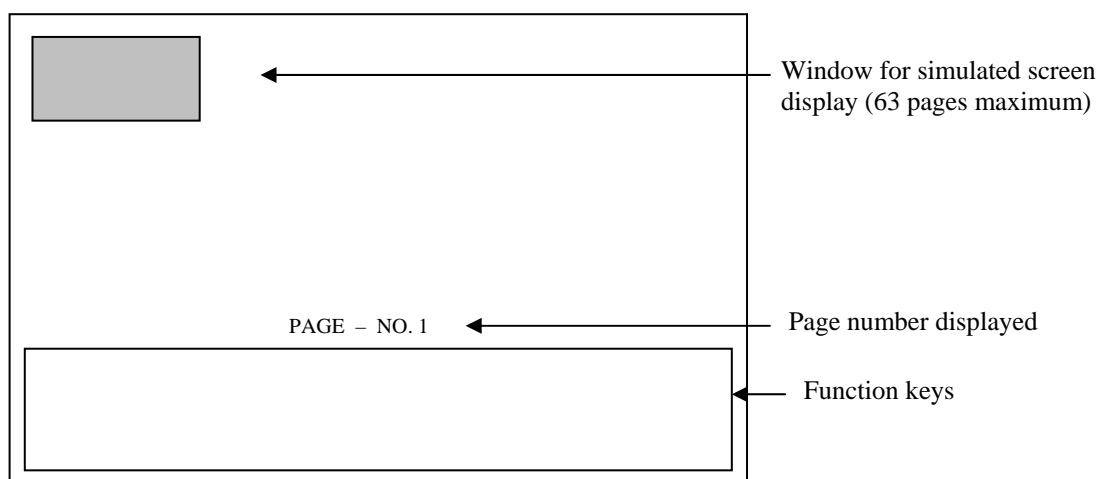
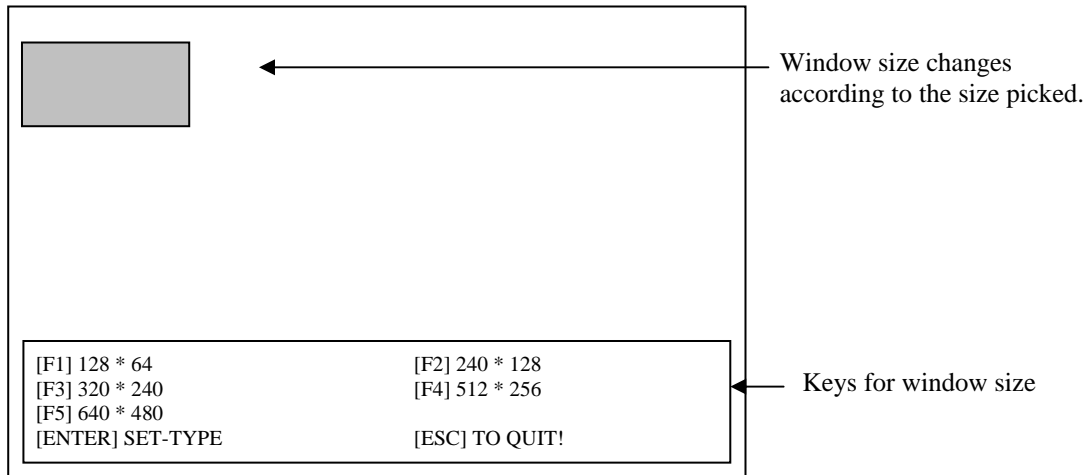

Fig 12-1 Main Function Page
Fig 12-3 Setting Width and Height of LCD Display
- If it’s a new file, a blank window is displayed as shown in Fig 12-1.
Press [F2] key on main function page (Fig 12-1) to bring up the LCD screen size selection page as shown in Fig 12-3.
Press [TAB] key on main function page (Fig 12-1) to bring up the “edit object” page as shown in Fig 12-4. The object can be numerals, character string, or bit map files. The data required for object setting will be discussed in detail in this section.